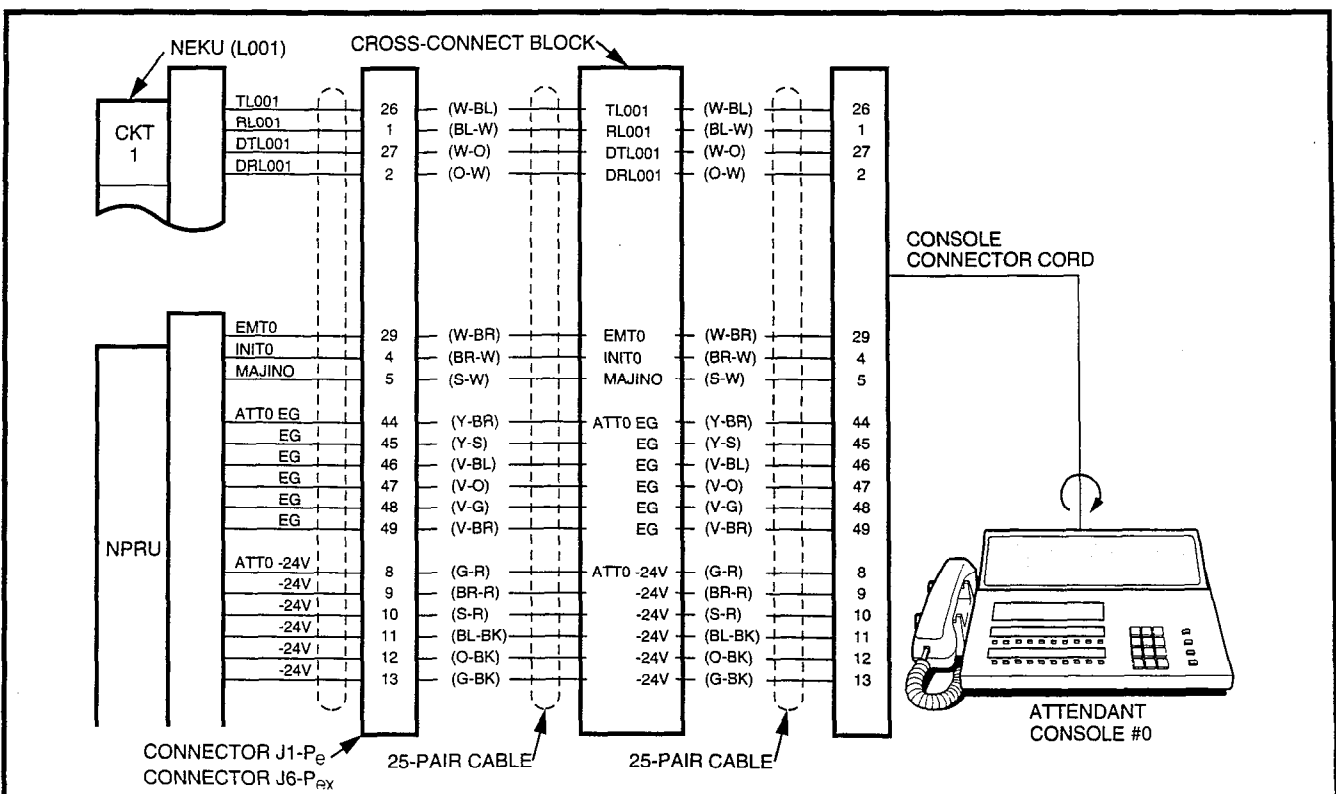

FIGURE 4-33—ATTENDANT CONSOLE #0 CONNECTION
5.52 Connection details for the attendant console(s) are shown in Figures 4-33 and 4-34.